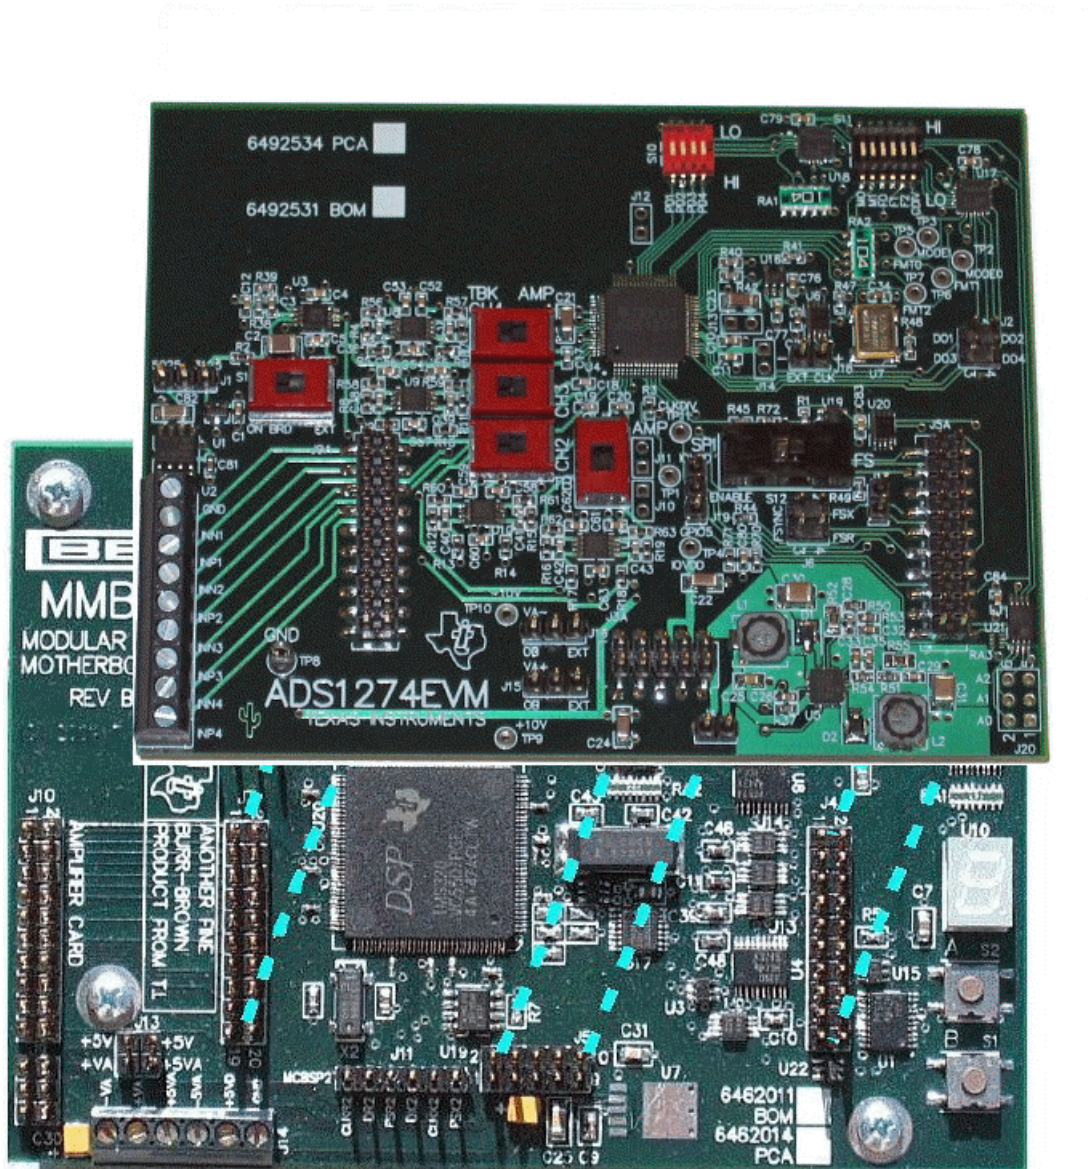

Figure 10. Connecting ADS1274EVM to MMB0
Step 3. Plug the ADS1274EVM into the MMB0 as Figure 10 illustrates.